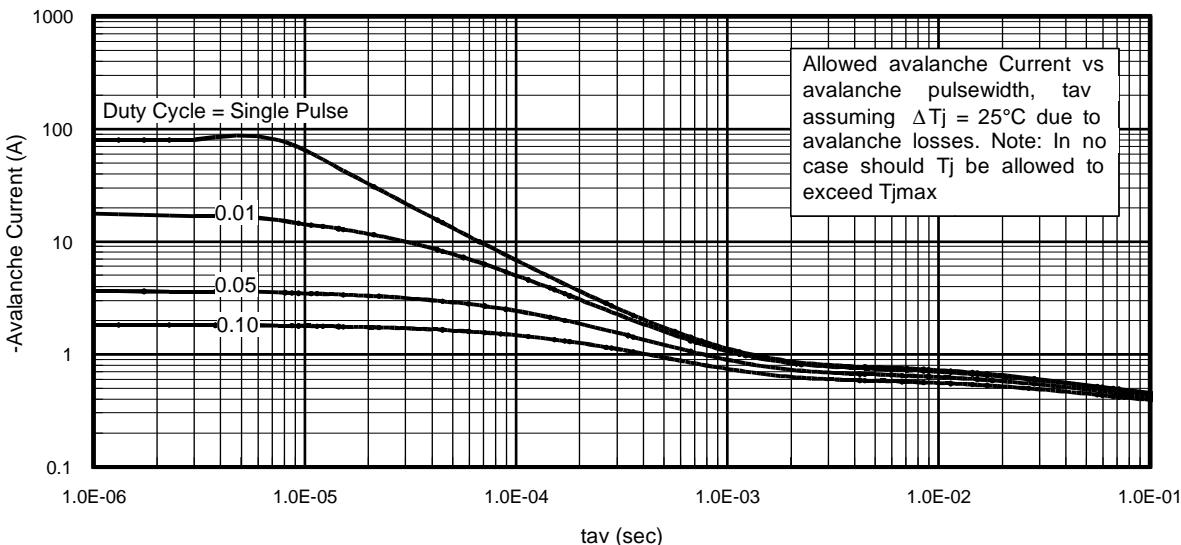

Fig 14. Typical Avalanche Current Vs. Pulsewidth
Notes on Repetitive Avalanche Curves , Figures 14, 15:
7. ΔT = Allowable rise in junction temperature, not to exceed T_{jmax} (assumed as $25^\circ C$ in Figure 14, 15).
- ① Repetitive rating; pulse width limited by max. junction temperature.
- ② Starting $T_J = 25^\circ\text{C}$, $L = 3.89\text{mH}$, $R_G = 25\Omega$, $I_{AS} = -10\text{A}$.
- ③ Pulse width $\leq 400\mu\text{s}$; duty cycle $\leq 2\%$.
- ④ R_θ is measured at T_J of approximately 90°C .
- ⑤ Limited by T_{Jmax} . See Figs. 14, 15, 17a, 17b for repetitive avalanche information